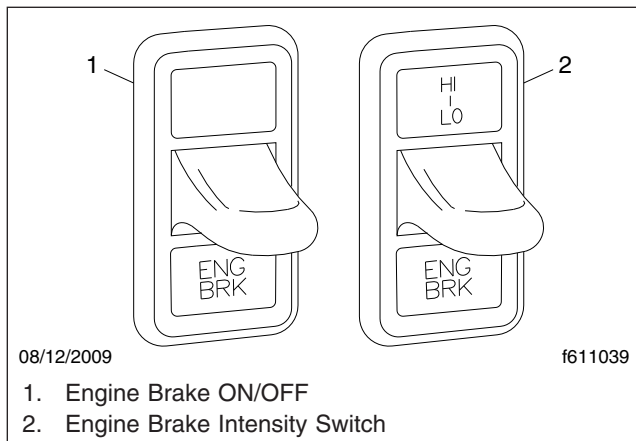

Fig. 12.5, Engine Brake Switches
- The dash mounted ON/OFF switch (ENG BRK), is used to turn the engine brake ON and OFF. See Fig. 12.5.